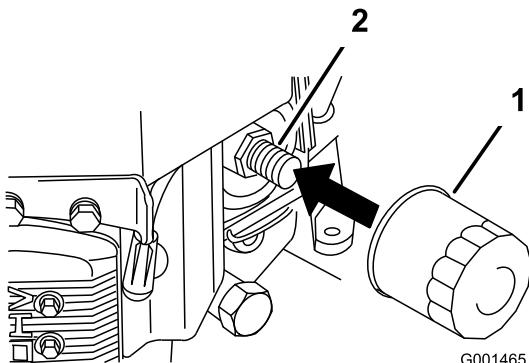

Figure 30
2. Remove the old filter (Figure 30).
4. Install the replacement oil filter to the filter adapter, turn the oil filter clockwise until the rubber gasket contacts the filter adapter, then tighten the filter an additional 3/4 turn (Figure 30).